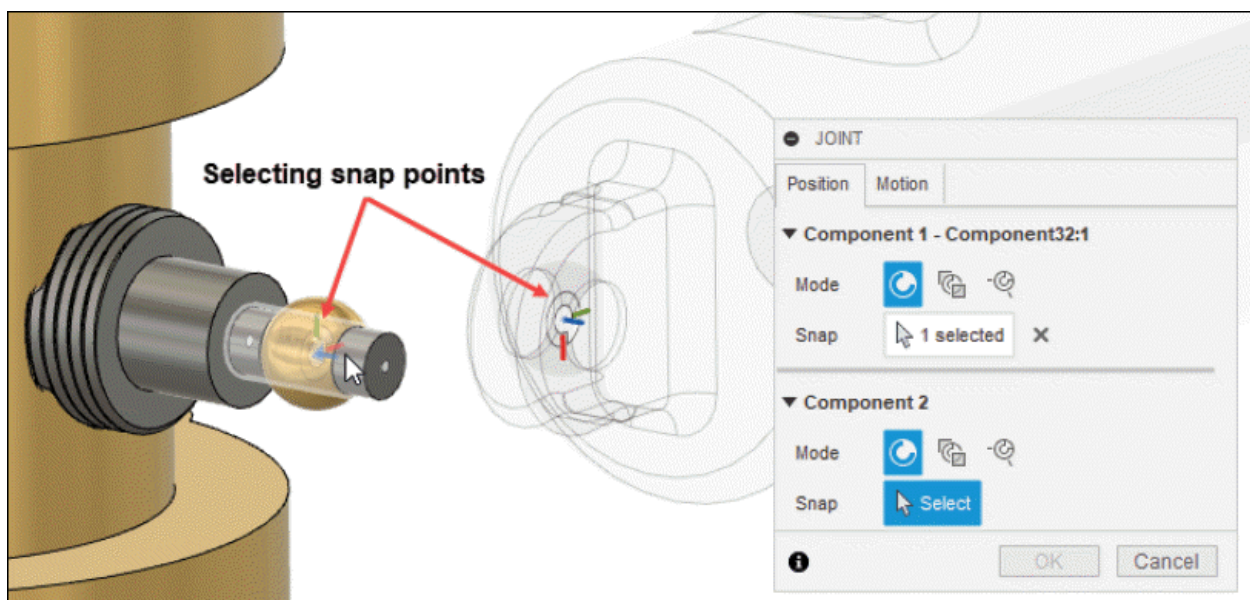

Figure-90. Selecting snap point on the components
- Select snap point on both Component 1 and Component 2 as shown in Figure-90.